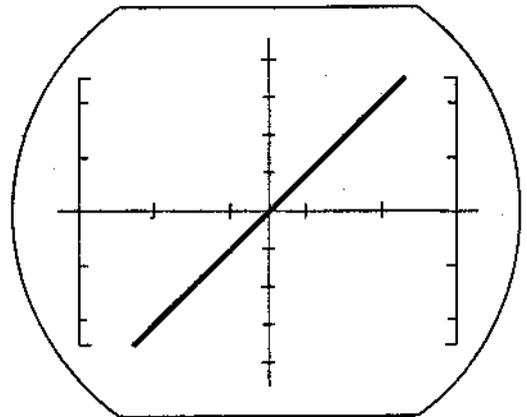

Fig. 17
7. Control the VERTICAL GAIN KNOB and the HORIZONTAL GAIN KNOB so that the CRT screen will show a straight line crossing the crosspoint of the vertical axis and the horizontal axis on the screen at 45° with respect to the horizontal axis as shown in Fig.17. This straight line is the pattern for mono signal.